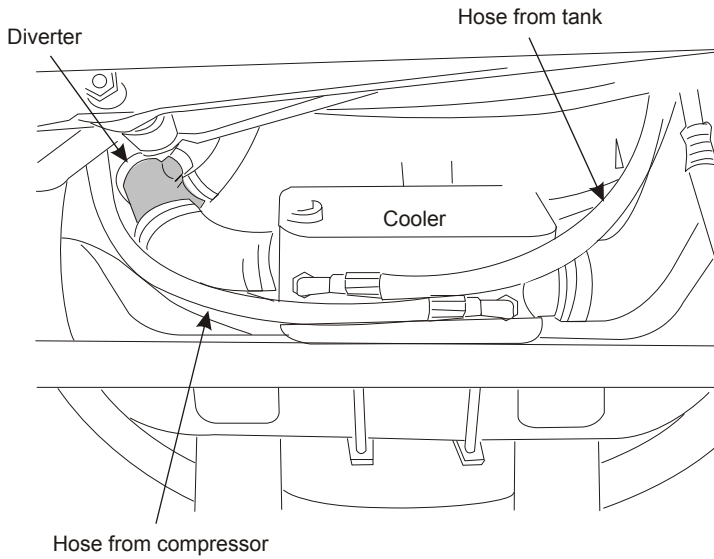

Figure 2.7
- Cut the driver's side hose at a suitable point just before the cooler and insert the supplied diverter with the two small hose spigots facing to the rear. Connect the OEM oil cooler hoses and make sure that they clear the steering arms (Figure 2.7).